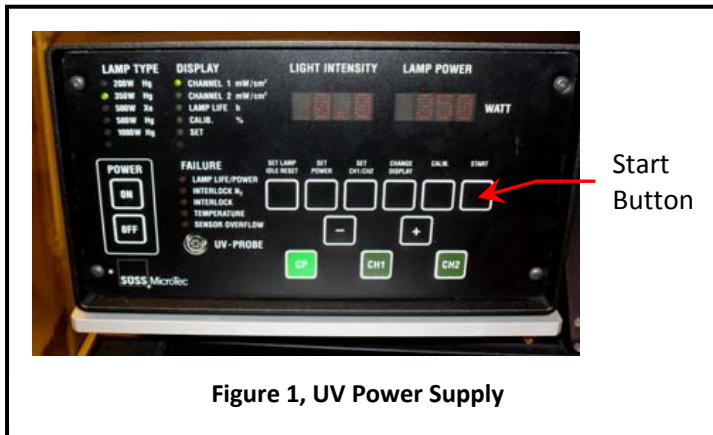

Figure 1, UV Power Supply
- Figure 1, UV Power Supply 3
6.1.1 Press Start. See *Figure 1, UV Power Supply*.